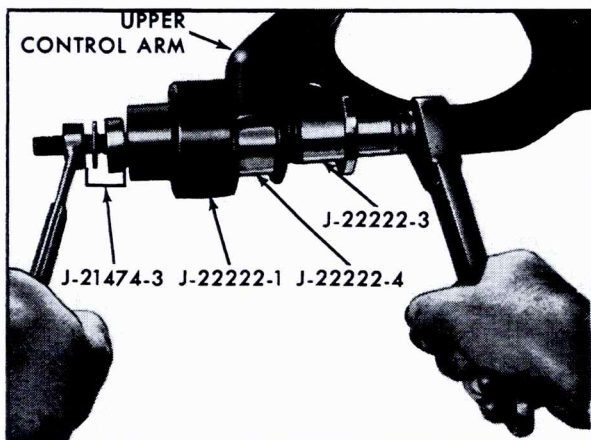

Fig. 3-46 Removing Upper Control Arm Bushings
7. Attach bushing removal tools as shown in Fig. 3-46.